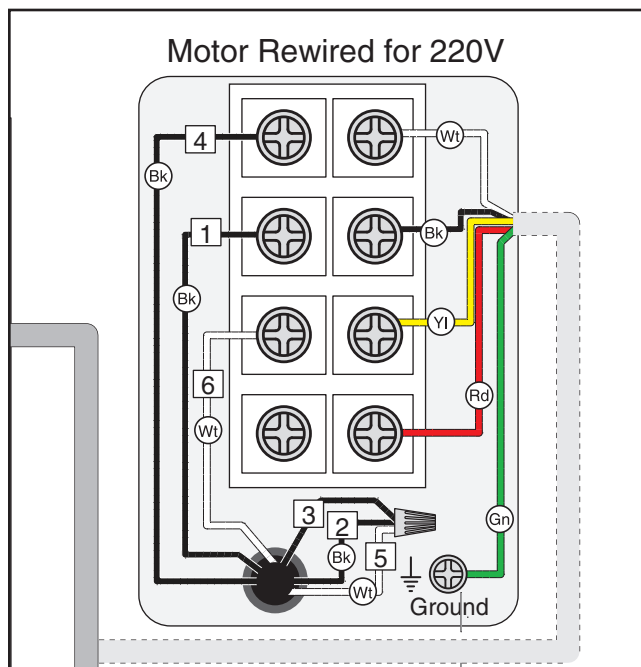

Figure 5. Motor configured for 220V operation.
3. Replace wires 4, 1, and 6 on the terminal block, as shown in **Figure 5**.
4. Use the wire nut to secure wires 2, 3, and 5 together, as shown in **Figure 5**.